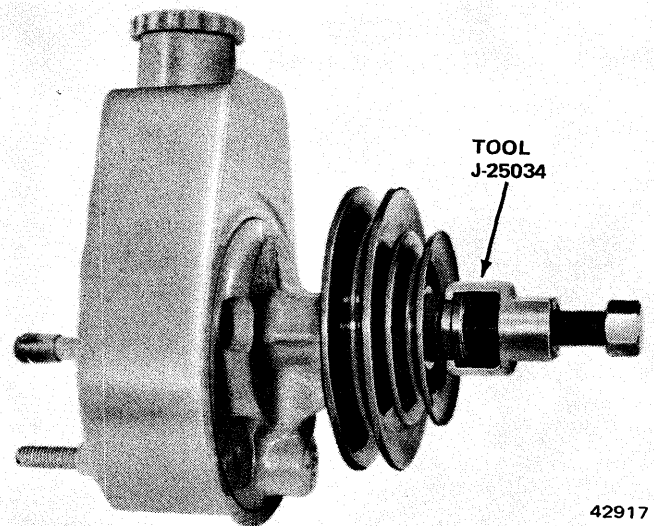

Fig. 11-96 Removing Pump Pulley
(1) Remove pump drive belt from pulley.
(2) Remove pulley using Tool J-25034 (fig. 11-96). Do not hammer pulley from shaft.
(1) Cover all pump openings and clean exterior of pump.
(2) Remove pump pulley using Tool J-25034 (fig. 11-96).
(3) Remove reservoir cap and drain oil from pump reservoir.
(4) Mount pump in vise with pump shaft pointing downward.
(5) Remove reservoir-to-pump housing studs and O-rings. Discard O-rings.
(6) Remove pump union. Remove O-ring from union and discard O-ring.
(7) Remove flow control valve and spring.